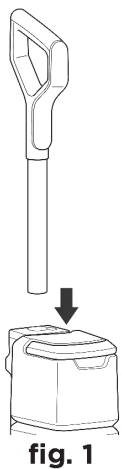

fig. 1
1. Insert pole into the top of unit until it clicks into place (**fig. 1**). Make sure the pole is properly installed to prevent it from falling out during use.